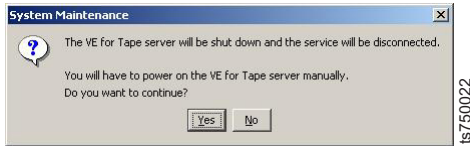

Figure 58. Server operator panel
11. ___ Open the base frame front door, observe the power-on LED on the server operator panel (**6** in Figure 58 on page 73), and perform one of the following:
- **Lit and steady:** the server is not in the standby condition. Press the white recessed power-control button on the server operator panel (**8** in Figure 58 on page 73) and proceed to step 12 on page 73.